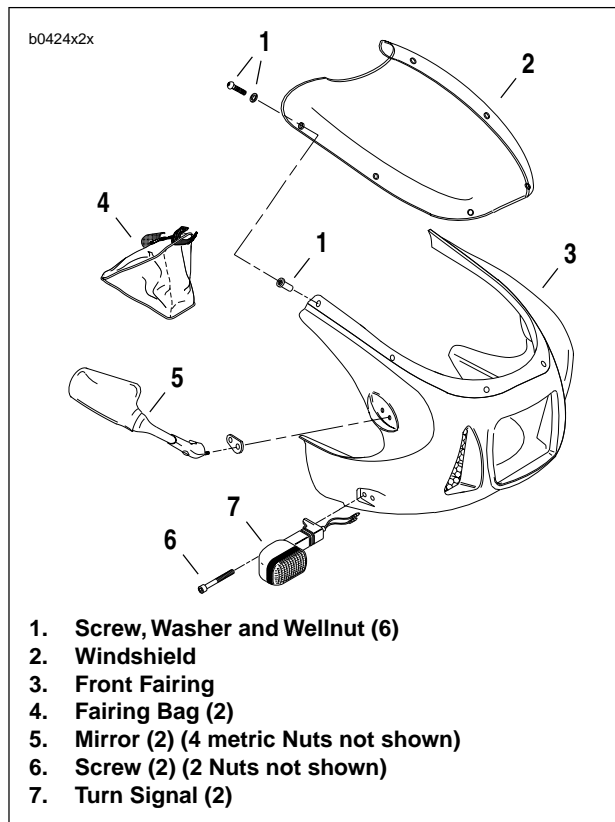

Figure 2-105. Front Fairing
1. See Figure 2-105. Remove both fairing bags (4).
2. Remove both front turn signals (7).
- b. Remove nut and screw (6) to detach turn signals. Use caution not to scratch front fairing.
3. Remove two nuts (metric) on each mirror (5). Remove mirrors while supporting front fairing. Pull front fairing away from front fairing bracket.
4. Remove six screws and washers (1) to separate windshield (2) from front fairing (3).
1. See Figure 2-105. Attach windshield to front fairing using six screws and washers (1).
2. Align front fairing on front fairing mount. Loosely install both mirrors (5) using two nuts (metric) on each.
3. Install front turn signals (7). See 7.3 TURN SIGNALS.
5. Install both fairing bags (4).